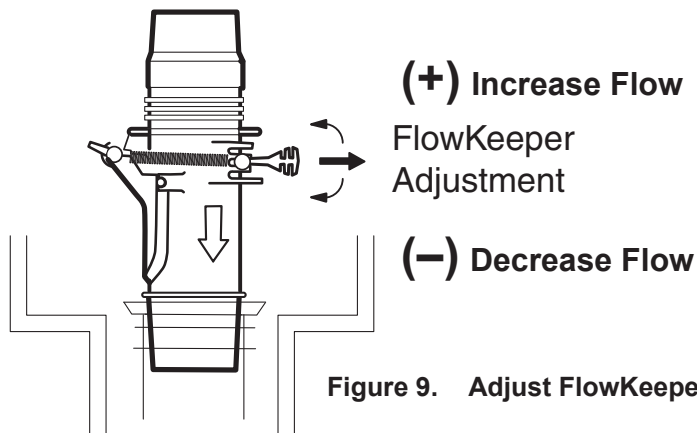

Figure 9. Adjust FlowKeeper™ Valve
- Flowkeeper™ valve at the skimmer for skimmer installation (Figure 9).